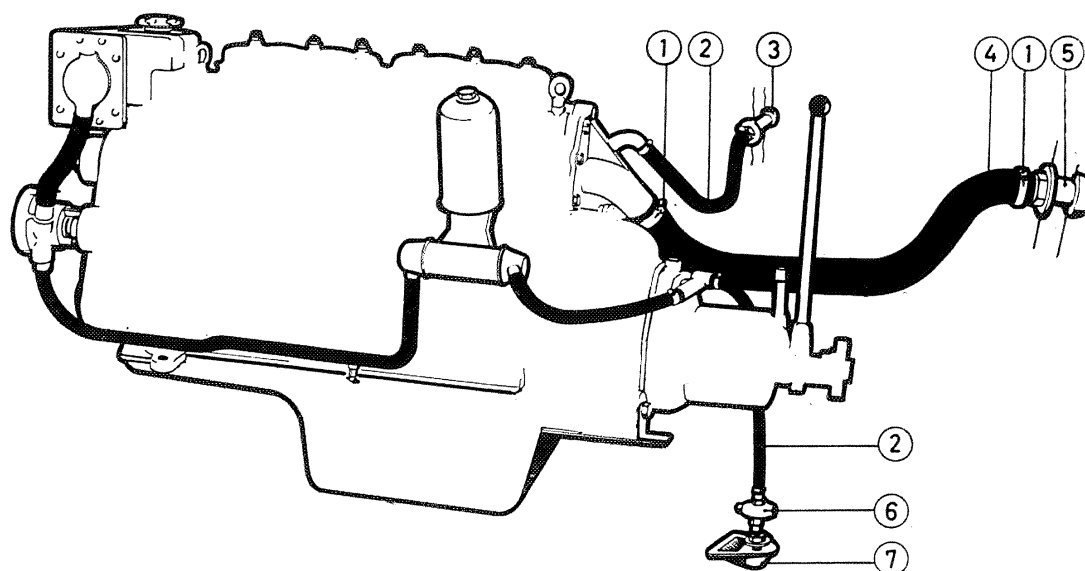

Fig. 28. Suggestion for exhaust and cooling water installation
The engine is as standard fitted with a water-cooled exhaust bend in which part of the outgoing cooling water is mixed with the exhaust gases so that the exhaust line is cooled very efficiently. Therefore the exhaust lines, to advantage, can be made of so called industrial rubber hose with an inner diameter of 57 mm (2 $\frac{1}{4}$ " in accordance with Fig. 28. The outlet of the exhaust line (5) should be located lower than the engine exhaust manifold. Special attention should be paid to ensure that the exhaust outlet is located in such a height position that the water cannot penetrate into the line even when the boat is rolling heavily. This means that at certain installations the exhaust line should be made with an extra upward bend (so called riser) at the through-hull fitting.
Part of the outgoing cooling water passes through the exhaust line in order to cool this, and part is led overboard, see Fig. 28 and 16.